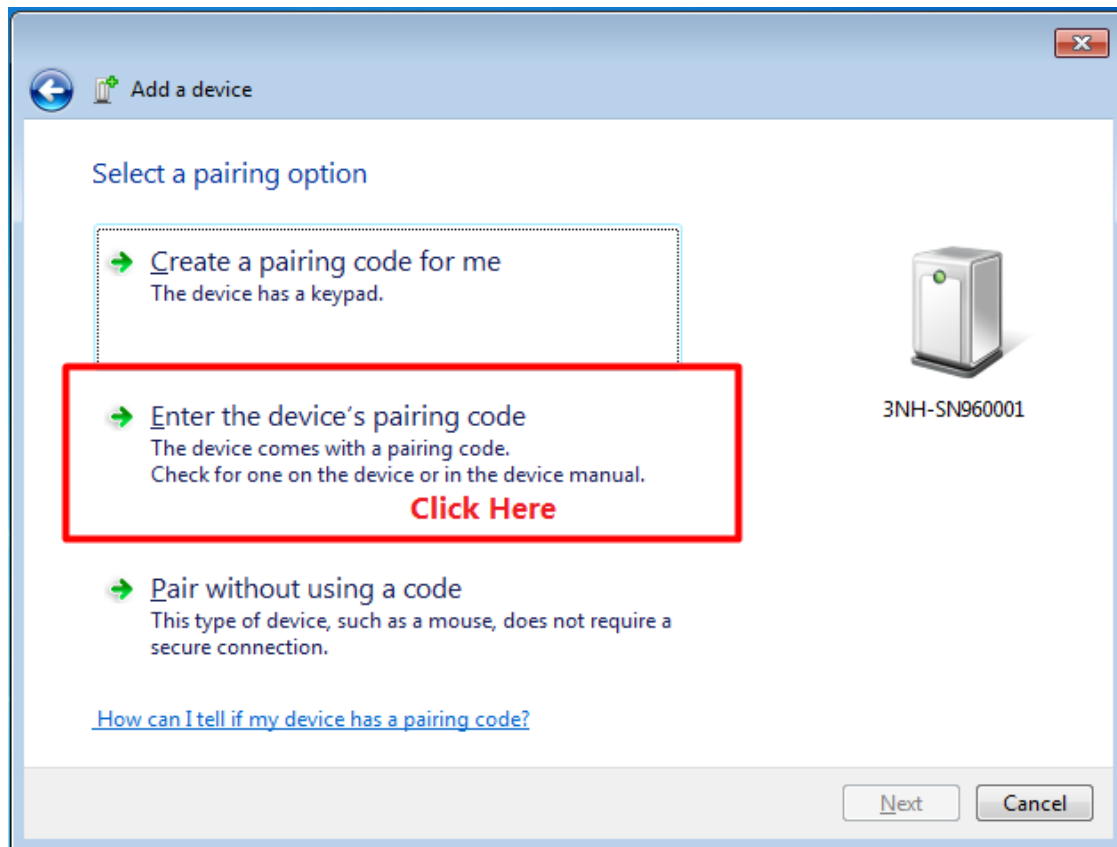
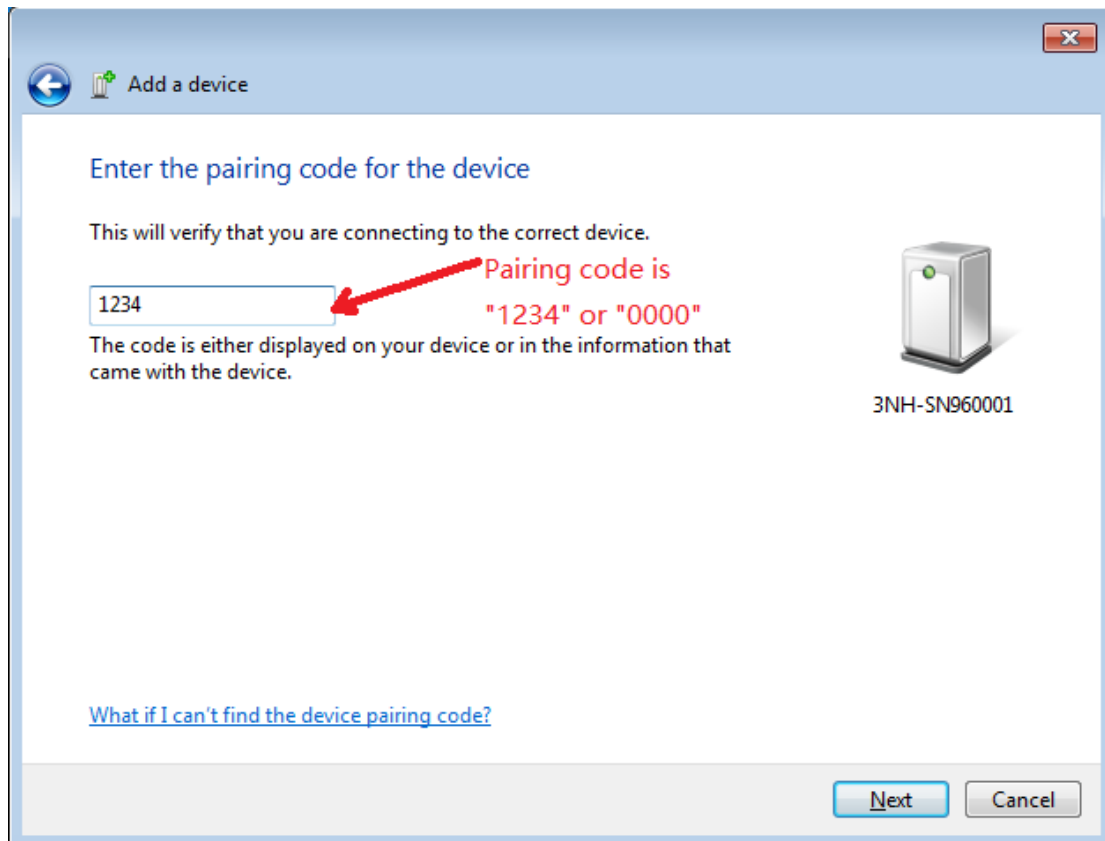

Figure 16 Pair Options Window
Figure 17 Enter the pairing code "1234" or "0000"
3. In the "Pairing Options" window of Figure 16, select "Input Pairing Code for Device". Enter the pairing code in Figure 17, enter the pairing code. The pairing code is "1234" or "0000", and then click "Next" to complete the addition of the device.